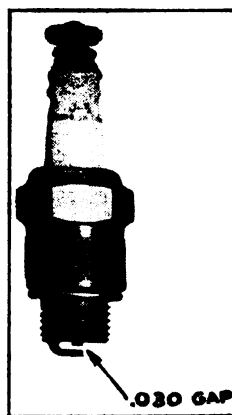

FIG. 9—
Always use Champion J5 spark plug, or one in equivalent heat range. Point gap should be .030. Make certain gasket (108) is on spark plug when installing in engine. (See Fig. 9, Page 20.)